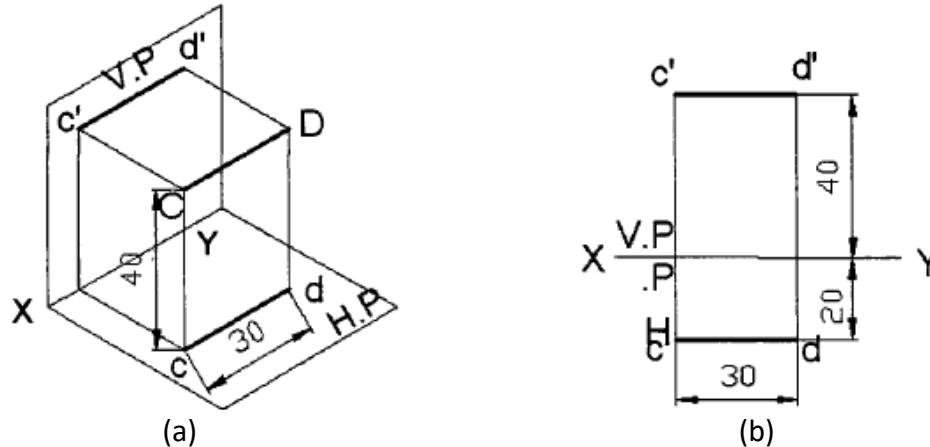

Fig. 2.9 Line parallel to both the planes
4. Top view is also true length and parallel to XY. Hence, cd parallel to XY such that $cd = CD = 30 \text{ mm}$ is the true length (Fig. 2.9).